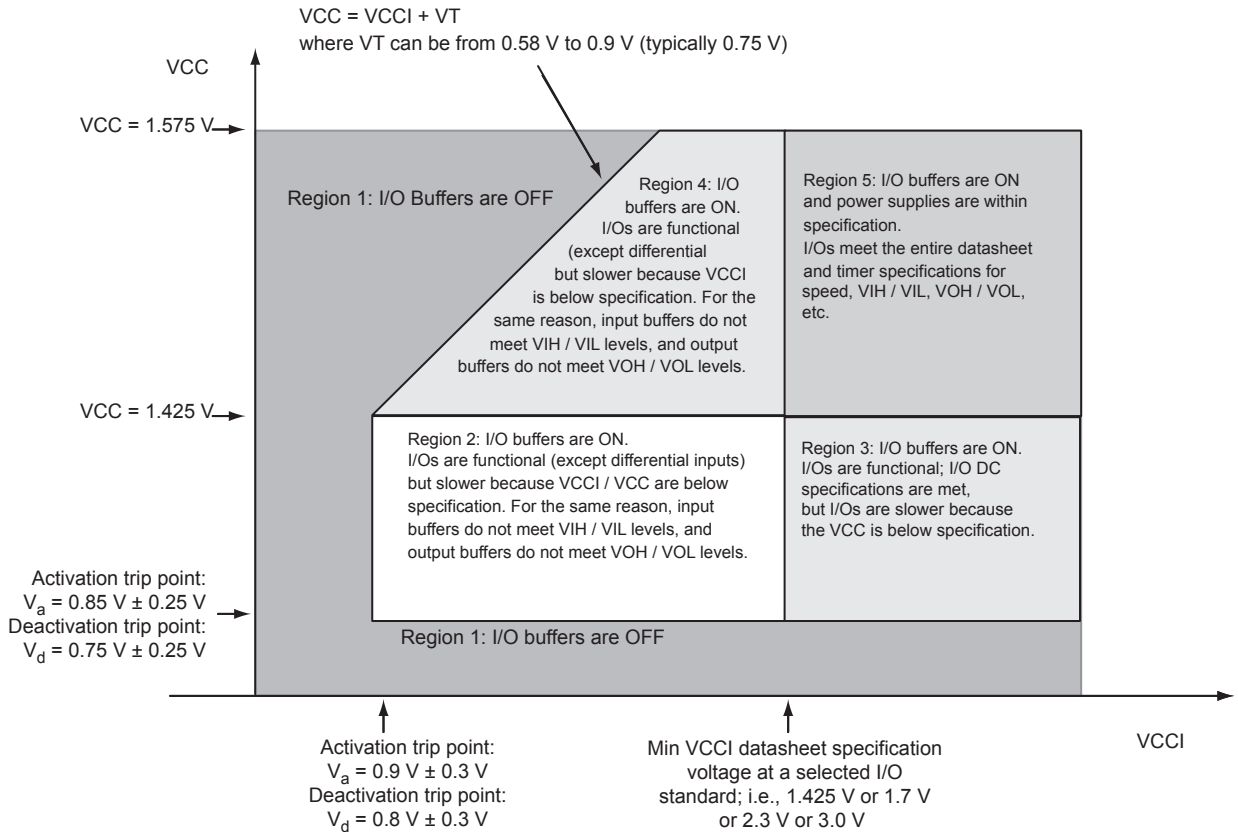

**Figure 2-2 • I/O State as a Function of  $VCCI$  and  $VCC$  Voltage Levels**
In addition, the I/O will be in a known state through the power-up sequence. The basic principle is shown in Figure 2-2 on page 2-5.
1. VCC and VCCI are above the minimum specified trip points (Figure 2-2 on page 2-5).
Microsemi recommends using monotonic power supplies or voltage regulators to ensure proper power-up behavior. Power ramp-up should be monotonic at least until VCC and VCCPLLX exceed brownout activation levels. The VCC activation level is specified as 1.1 V worst-case (see Figure 2-2 on page 2-5 for more details).